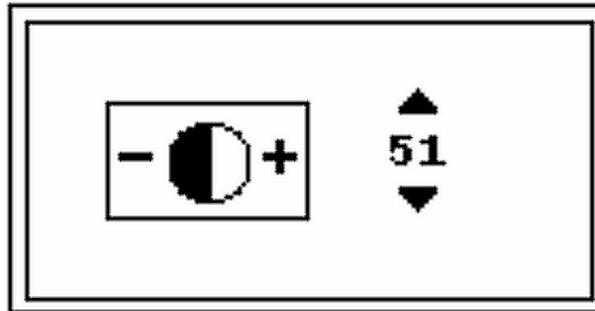

Figure 2-37 Contrast - Configuration
5. Press **Enter** and the configuration screen appears (Figure 2-37).